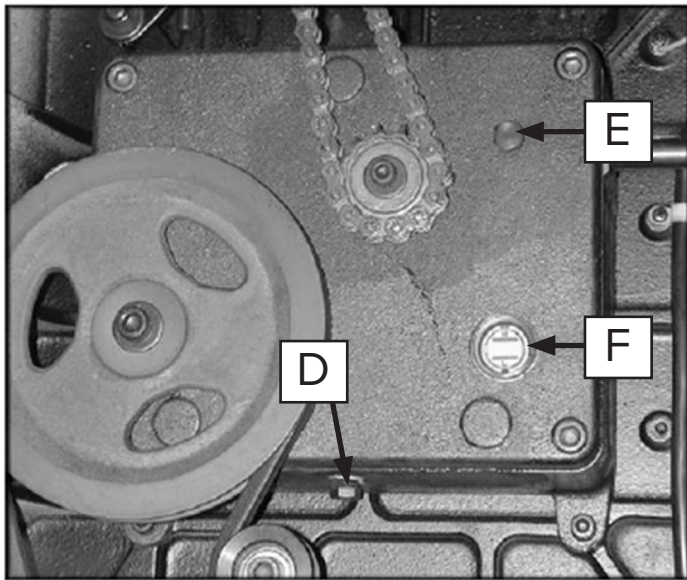

Figure 23: Gearbox Oil Change.
1. Change the gear box oil annually. Remove the drain plug (D, Figure 23) to drain the old oil.
2. Refill the gear box with 60-90 weight gear oil through the fill hole (E, Figure 23) halfway up the sight glass (F, Figure 23) shows full DO NOT OVER FILL.